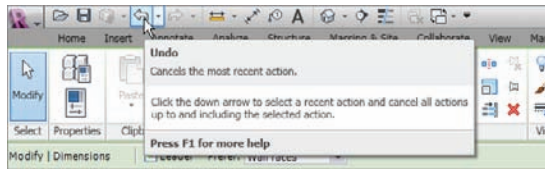

FIGURE 5.36 Click the Undo button.
7. Click the Undo button, as shown in Figure 5.36.